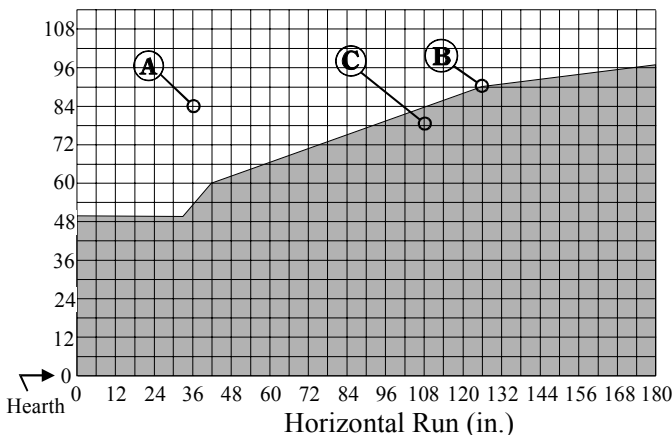

Figure 18a. ME38-ODV-2 Rear Vent Venting Graph
- your vent run must fall within the limits set by Figure 18a
Measure the vertical height from the fireplace hearth to the centre of the termination and the horizontal run from the fireplace flue collar to the wall flange of the termination. Plot on the Venting Graph (Fig. 18a) with an 'X'.
**NOTES:** All dimension lengths for vertical or horizontal runs are measured from center of the vent pipe. Venting runs *must* fall within the limits set by the venting graph (see Figure 18a).